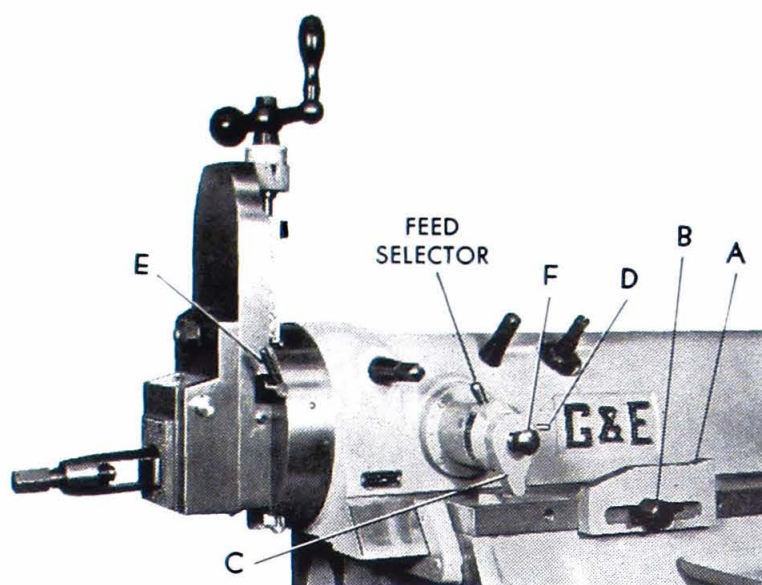

Figure 4
After the stroke length and the ram position have been set and the tool slide lock (E) is released, the power downfeed can be set. (See Fig. 4).